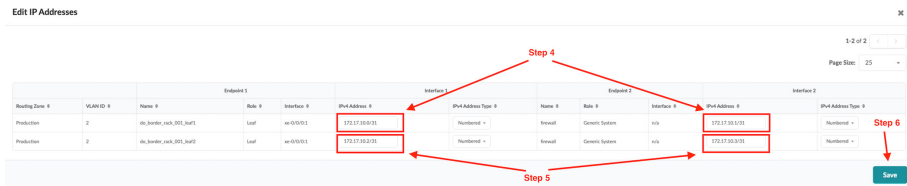

Figure 6.20 Assigning IP Addresses to Physical Links for Production VRF
Step 4. Assign 172.17.10.0/31 to the first interface on Border Leaf 1 and 172.17.10.1/31 to the Generic System's remote end of the link. See Figure 6.20.